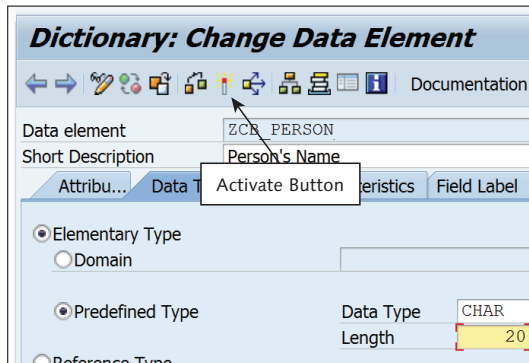

Figure 4.12 Activating a Data Element
7. Enter the length of the data type in the LENGTH field. For this data element, enter "20". Click the ACTIVATE button (see Figure 4.12) or press **Ctrl** + **F3** to activate the data element. Save it to a package, and click CONTINUE when an informative message asks you to maintain field labels.